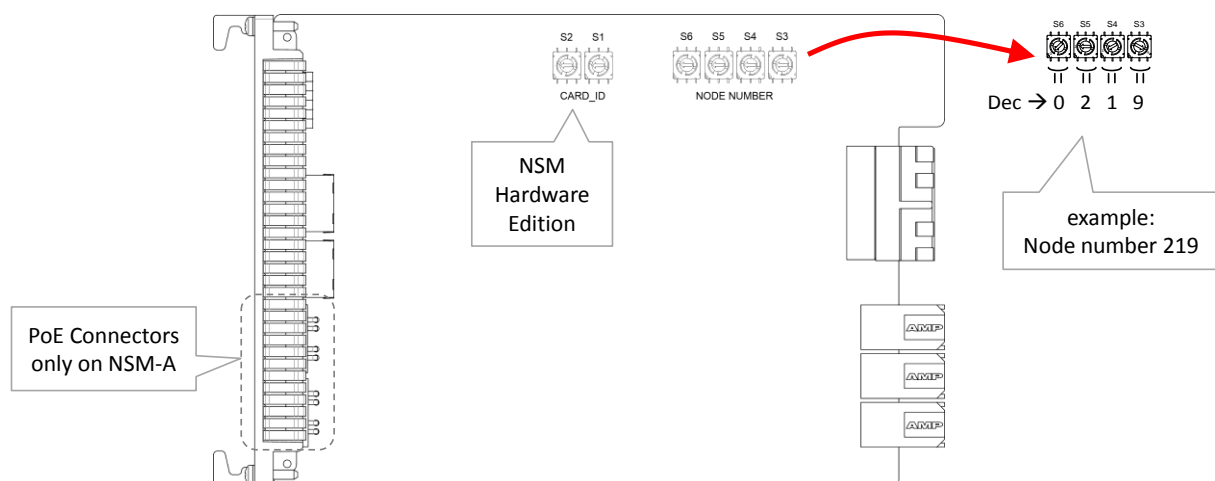
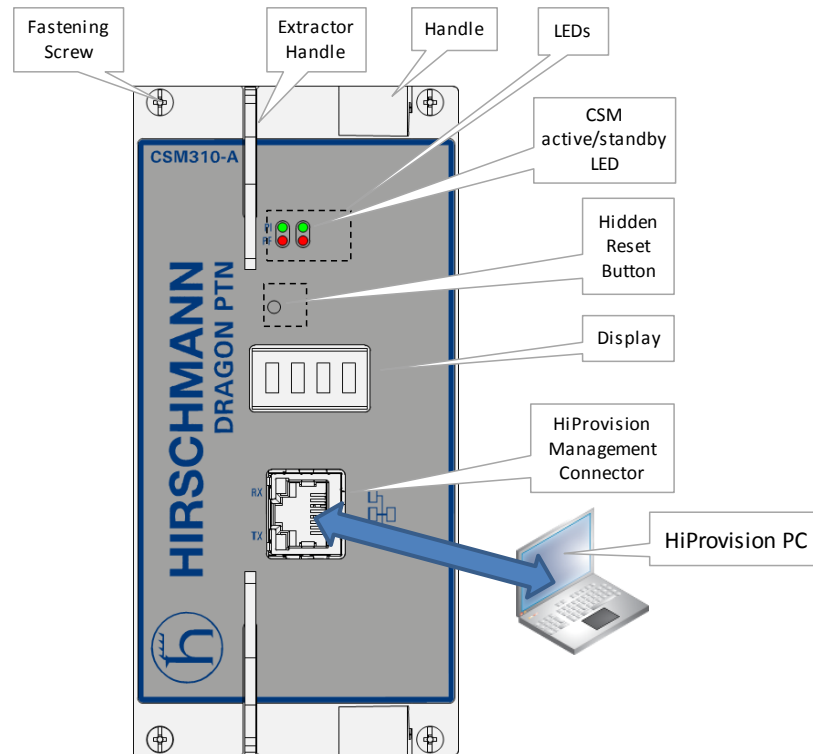

Figure 2 NSM Side View: Node Number
Figure 3 CSM Front Panel
2. Set a node number for each node by setting the rotary switches S3 to S6 on the NSM (=Node Support Module) of each node, see Figure 2. Each node number must be unique in the network. Valid decimal node numbers range from 0001 to 8999. The configured node number can be verified later on via the CSM (=Central Switching Module) display, see Figure 3. See also the installation instructions in Ref. [1] in Table 1.
- ▶ Interconnect one or two NICs on the HiProvision PC with one single CSM or two redundant CSMs in a node in the Dragon PTN network. The connection(s) with the node occurs via plugging in the copper cable into the 'HiProvision Management Connector' of its CSM(s), see Figure 3;